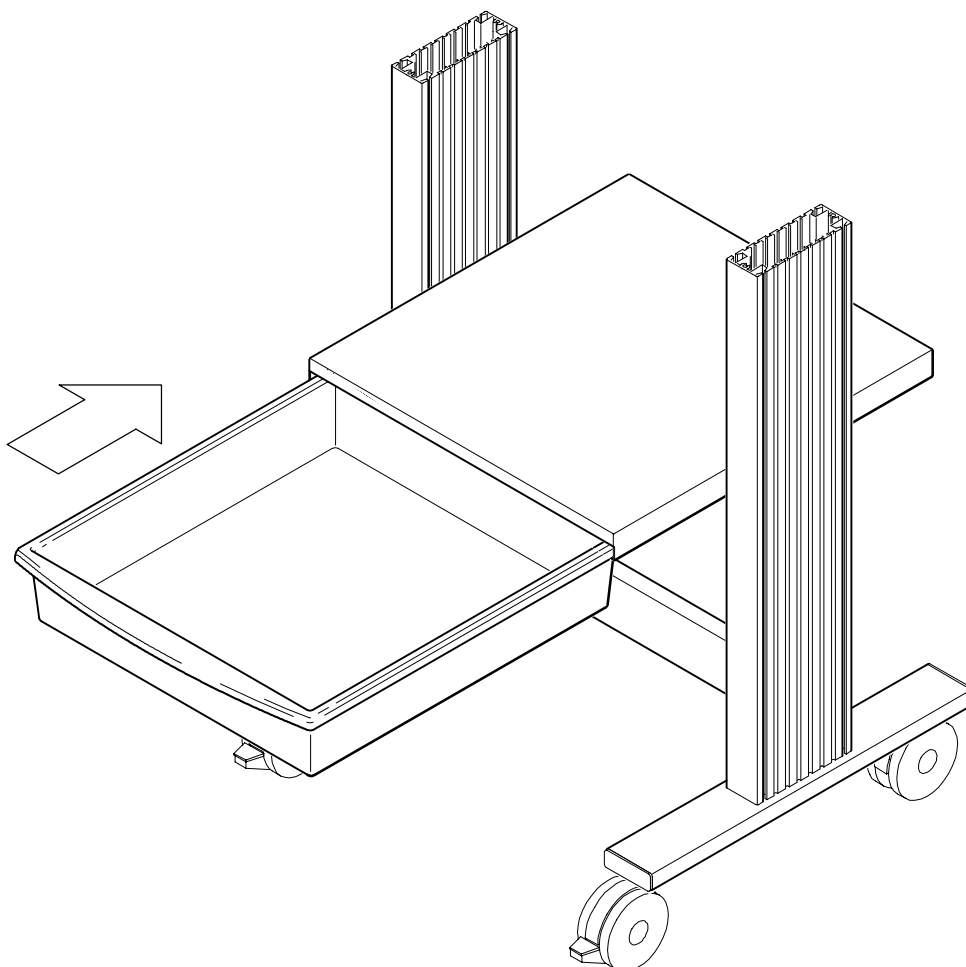

**Figure 7: Aligning the Drawer Shelf**
2. Position the drawer shelf horizontally between the leg assemblies, as shown in Figure 7. Position the shelf so the open edge is to the front of the tower.